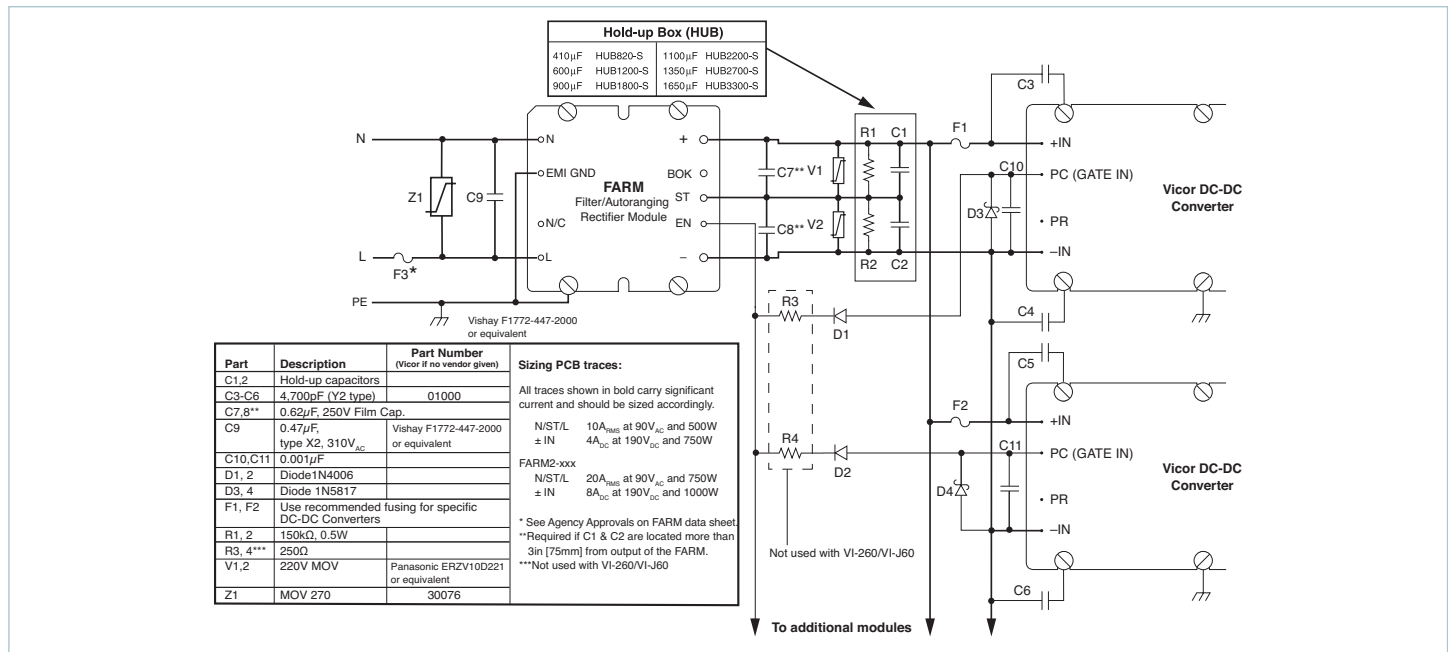

Figure 8.3 — Offline power supply configuration
Strap (ST) Pin: In addition to input and output power pin connections, it is necessary to connect the strap pin to the center junction of the series hold-up capacitors (C1, C2, Figure 8.3) for proper (autoranging) operation. Metal-oxide varistors, V1 and V2 provide capacitor protection. The bleeder resistors (R1, R2, Figure 8.3) discharge the hold-up capacitors when power is switched off. Capacitors C7 and C8 are recommended if the hold-up capacitors are located more than 3in [75mm] from the FARM output pins.
It should be noted that the series combination (C_1 , C_2 , Figure 8.3) requires each capacitor to be twice the calculated value, but the required voltage rating of each capacitor is reduced to 200V. Allowable ripple voltage on the bus (or ripple current in the capacitors) may define the capacitance requirement. Consideration should be given to converter ripple rejection and resulting output ripple voltage.